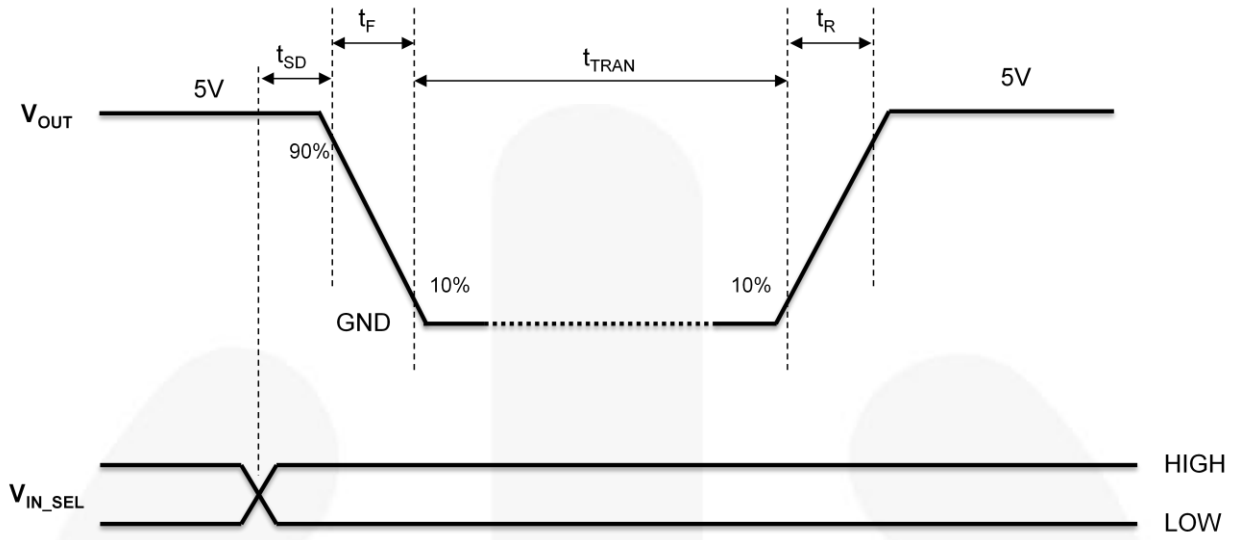

Figure 6. Transition Delay ( $V_{IN}=V_{BUS}=5\text{ V}$ )
- $t_{SD}/t_{TRAN}/t_R/t_F$  are defined in Figure 6.